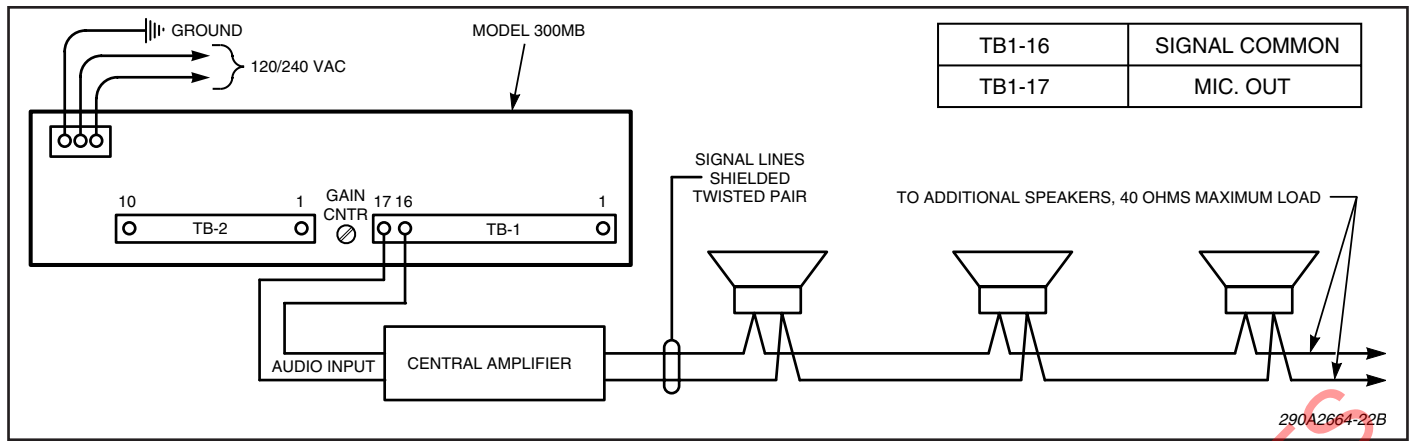

Figure 3-8. Model 300MB with Central Amplifier Connections.
D. *300MB Interfacing with a Central Amplified System (see figure 3-8).*